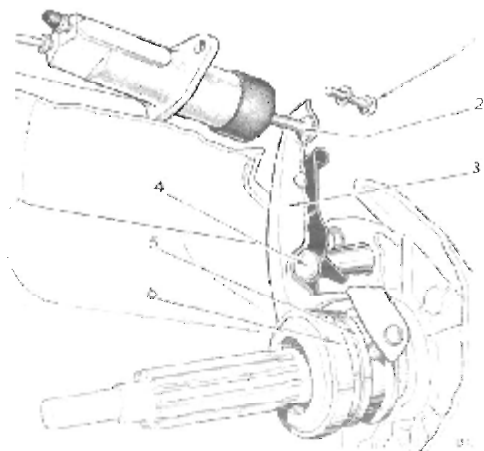

Fig. 9. Clutch release lever attachment (Vitesse)
Referring to Fig. 9 for Vitesse vehicles: - remove the slave cylinder attachment bolts (1) and move the push rod (2) clear of the release lever (3). Unclip the lever from its spherical pivot pin (4), withdraw the bearing sleeve (5) and take off the bearing (6).